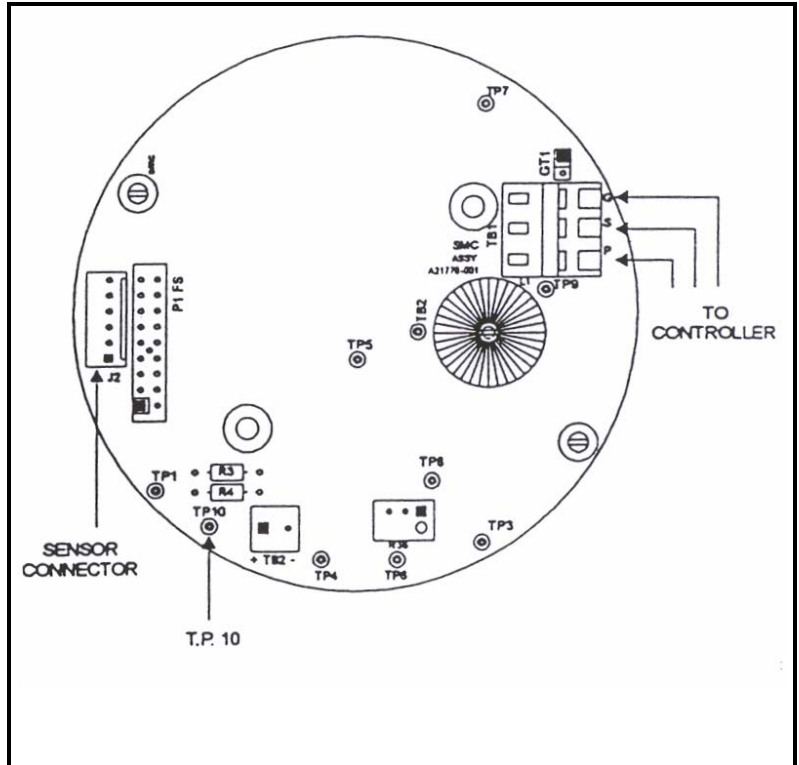

Figure 7-12
4. Connect a DVM across TP10 and GT1 on the transmitter assembly. Figure 7-12